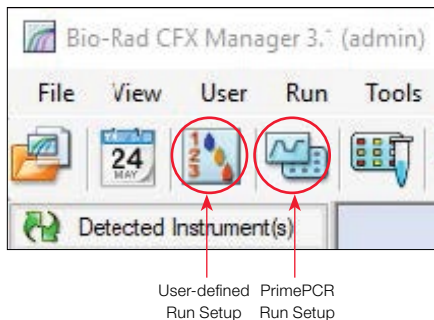

Fig. 10. Main window toolbar.
- On the main window toolbar, click **User-defined Run Setup** or **PrimePCR Run Setup** (Figure 10)